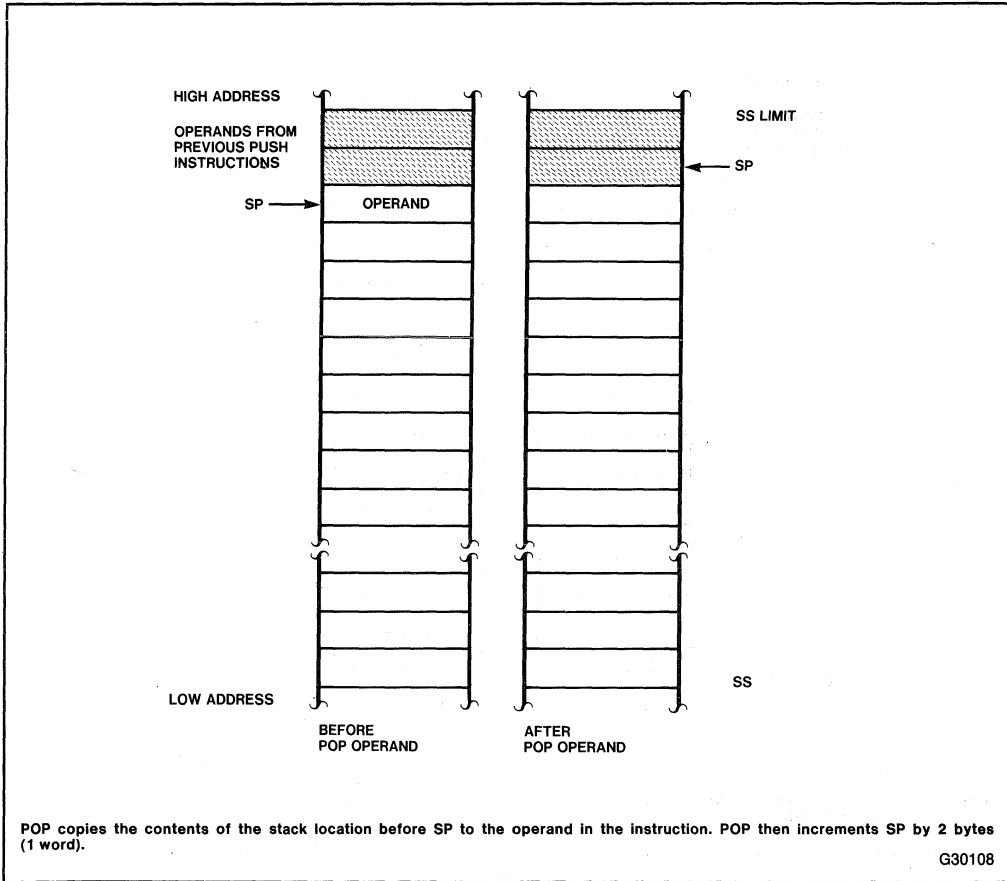

Figure 3-3. POP
*POP (Pop)* transfers the word at the current top of stack (indicated by SP) to the destination operand, and then increments SP by two to point to the new top of stack. See figure 3-3. POP moves information from the stack to either a register or memory. The only restriction on POP is that it cannot place a value in register CS.